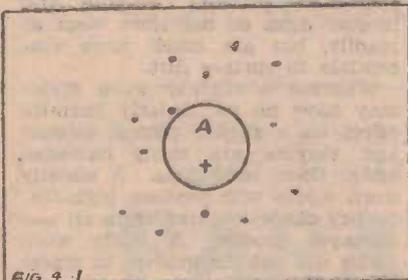

FIG. 1
Fig. 1 (C). Equivalent mechanical circuit for magnetic reproducer.  $M_1$ ,  $M_2$ ,  $C_1$  and  $R_1$  are the same as in Fig. 1B.  $C_2$  is the compliance between the stylus and the moving system.  $M_3$  is the moment of inertia of the stylus suspension.  $R_2$  is the damping of the stylus support. In this case  $X_3$  is the useful motion of the system.